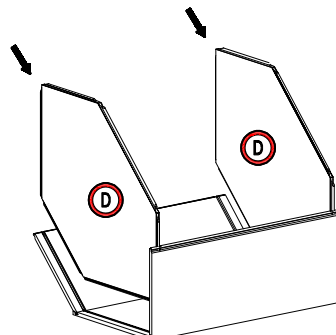

Figure 4
4. Installing the top and bottom (D): Insert the top and bottom (D) into the groove of the back panel (B), side panel (B) and side panel (A). Press down until they click into place.(Figure 4)